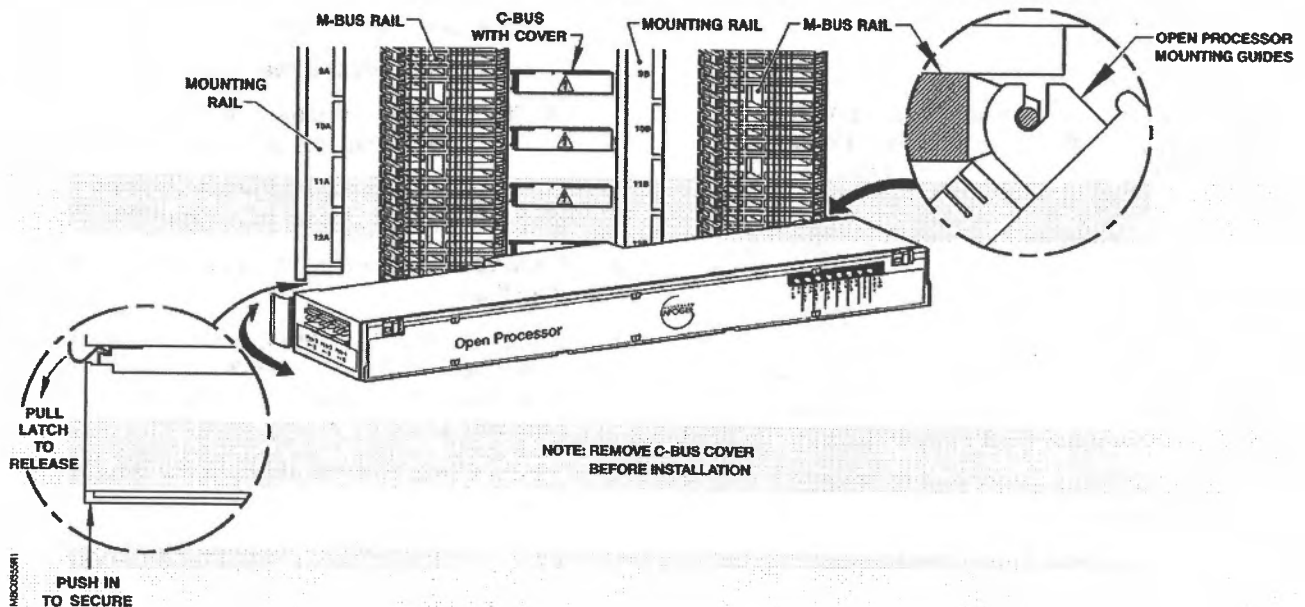

Figure 2. Installation of the Power Open Processor/Open Processor.
3. Remove the C-Bus cover from the lowest available slot and discard (see Figure 2).
4. Remove any remaining M-Bus protective tape from the M-Bus rails (see Figure 2).
7. Align the Power Open Processor/Open Processor with the slot number printed on the mounting rail (see Figure 2).
8. Align the Power Open Processor/Open Processor mounting guides with the right-hand edge of the M-Bus rail (see Figure 2).
9. Push firmly on the free end of the Open Processor so that the C-Bus card edge and M-Bus connector mate with the C-Bus connector and M-Bus rail (see Figure 2). You will hear a “click” when the Power Open Processor/Open Processor is properly attached to the mounting rail.
10. If the Power Open Processor/Open Processor needs repositioning, pull the metal latch. Pull the Power Open Processor/Open Processor forward from the C-Bus connector (see Figure 2) and repeat Steps 7 through 9.
5. Remove the C-Bus cover from the lowest available slot and discard (see Figure 2).